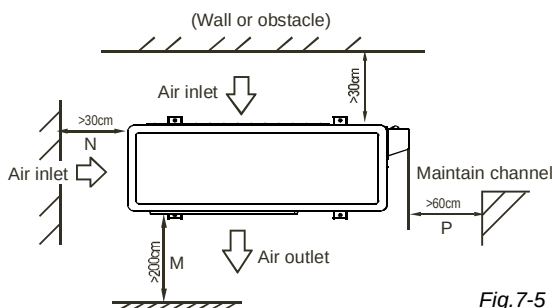

Fig.7-5
- The minimum distance between the outdoor unit and obstacles described in the installation chart does not mean that the same is applicable to the situation of an airtight room. Leave open two of the three directions (M,N,P) (Refer to Fig.7-5)